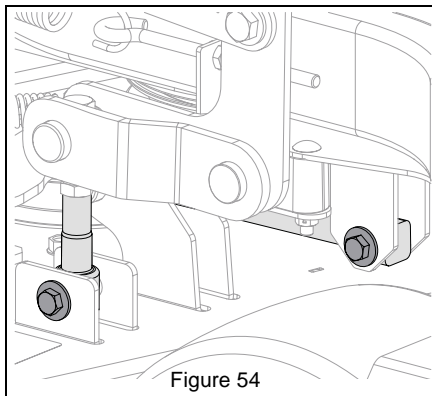

Figure 54
1. Position deck under unit. See Figure 54.